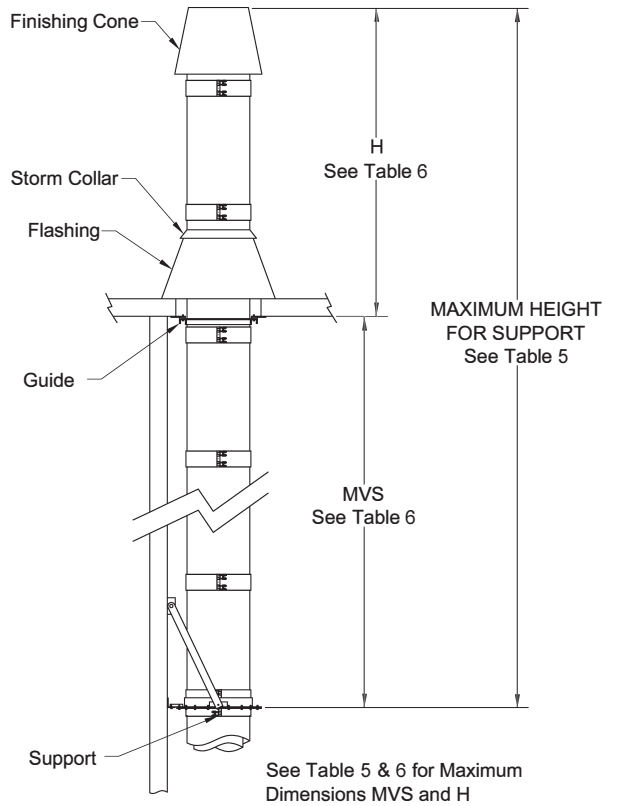

Figure 4 - Maximum freestanding height
2. If the chimney above the roof does not exceed dimension H, no special guying or bracing is required. However, to protect the flashing from lateral movement, a guide must be installed at the roof level. **See Figure 4.**